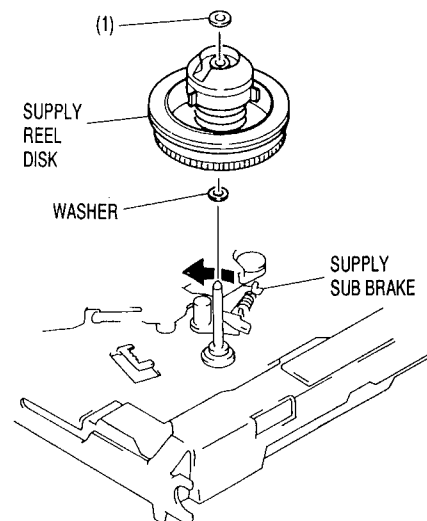

Fig. 3-15
- 1) Remove 1 washer (1). (See Fig. 3-15)